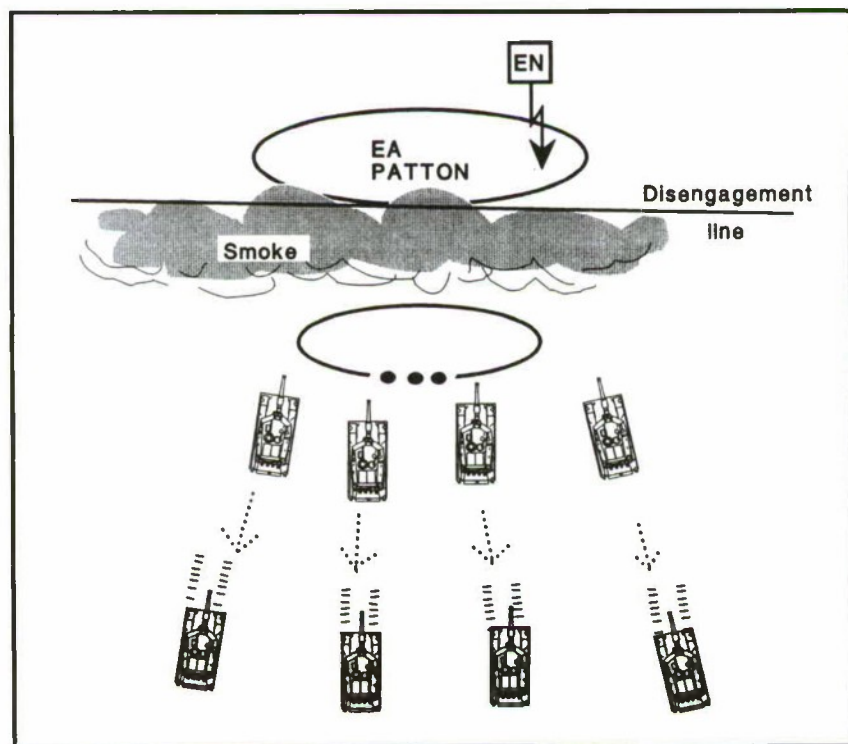

Figure D-6. Using screening smoke to conceal displacement.
- **Screening.** Smoke is used in friendly areas of operation or in areas between friendly and enemy forces to degrade enemy ground and aerial observation and to defeat or degrade enemy acquisition systems. Screening smoke helps to conceal the platoon as it displaces from a BP or as it conducts tactical movement approaching enemy positions. Smoke can also be employed to conceal a platoon as it conducts a bypass, breach, or assault mission. Figures D-6 through D-8, pages D-26 and D-27, illustrate uses of screening smoke.